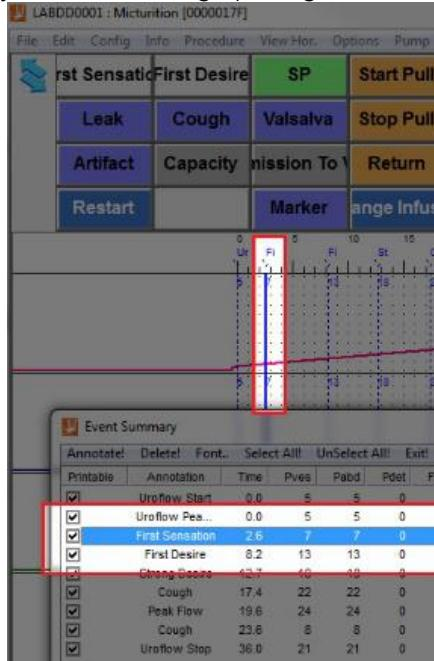

Figure 108: Event Summary – Select Event
4. The selected event is automatically bolded on the graph (Figure 108). Close the **Event Summary** window.